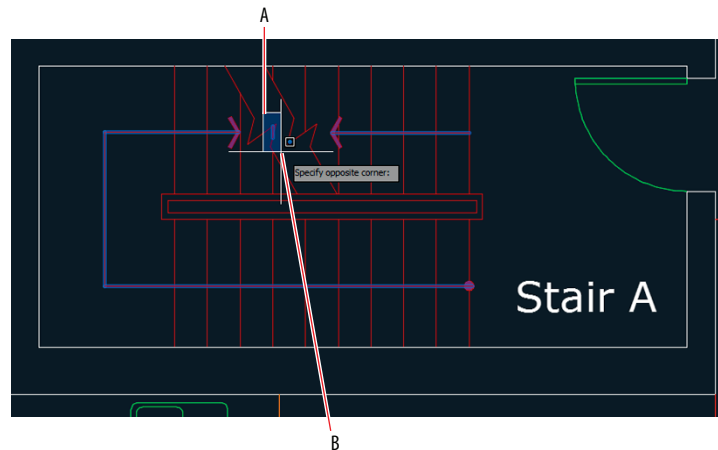

FIGURE 4.4 Removing a short line from the selection set with an implied window
6. Click point A and then point B, as shown in Figure 4.4. This implied window selects the short line segment trapped in the break line and removes it from the selection set.